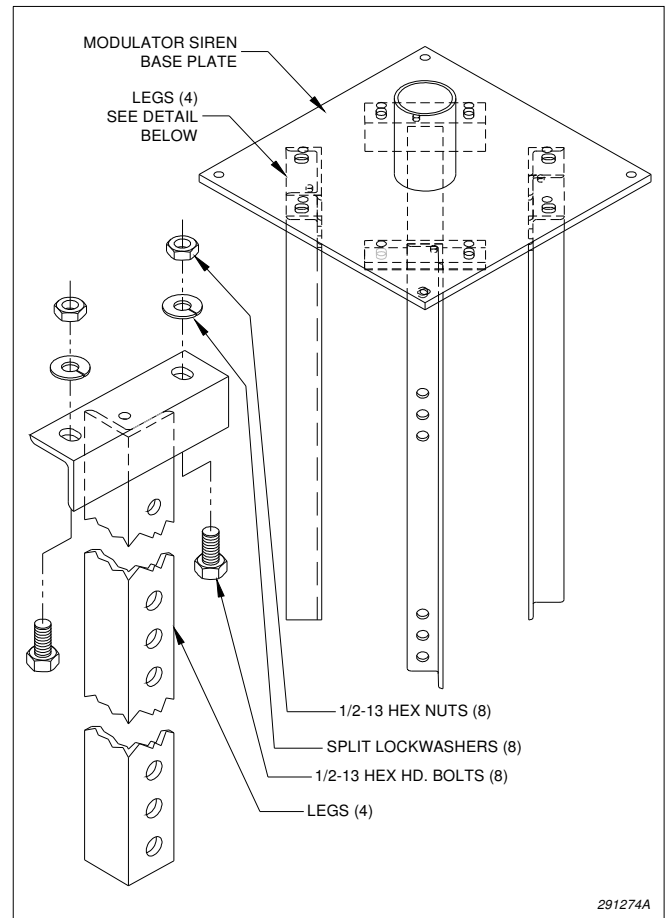
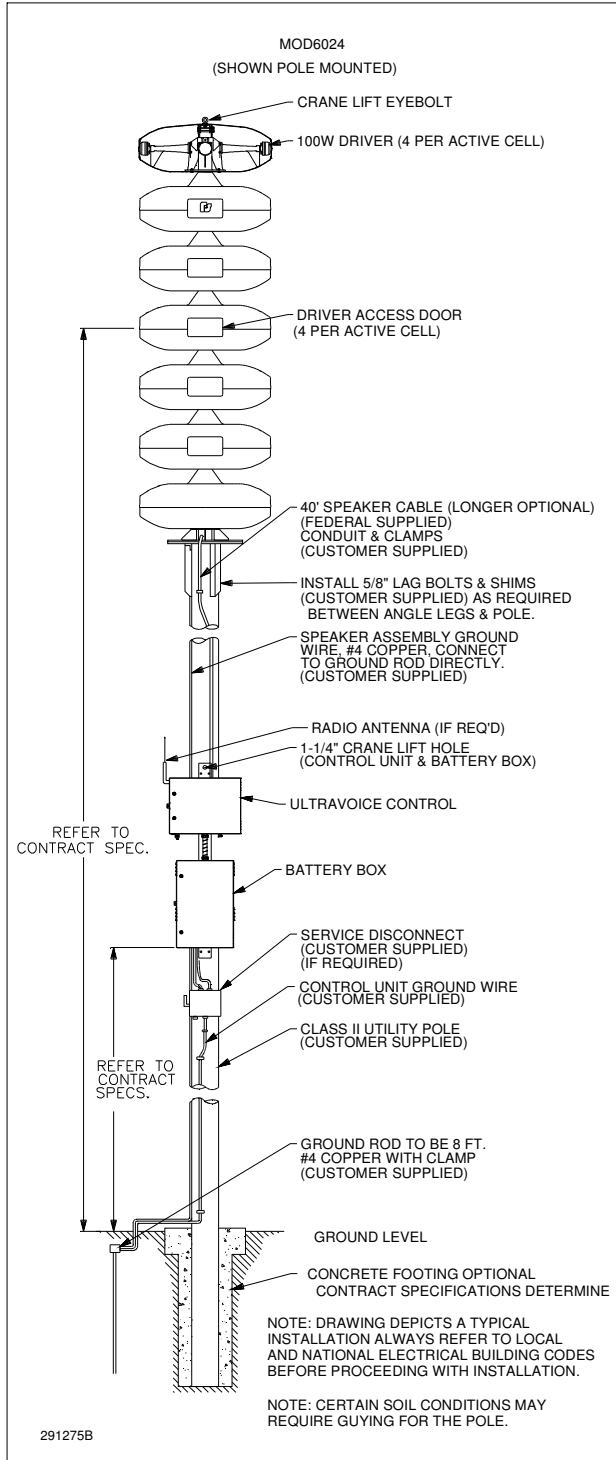

Figure 3-1. Siren Leg Assembly
Figure 3-2. Typical Wooden Pole-mounted Installation
A typical wooden pole-mounted siren installation is shown in *Figure 3-2*. The siren is mounted on a Class 2 utility pole (ANSI type wooden pole or equivalent) with a minimum horizontal ground stress rating of 3,700 pounds (1682 kg). Insure that soil loads will conform to this size utility pole. It is attached to the pole by means of legs, as shown in *Figure 3-1*.
2. Install the four legs on the siren mounting plate, as shown in Figure 3-1. Use two stainless steel 1/2" bolts, nuts and lock washers (provided) for each leg. All mounting hardware needed is supplied in the hardware kit shipped with this manual. Do not tighten the bolts completely.